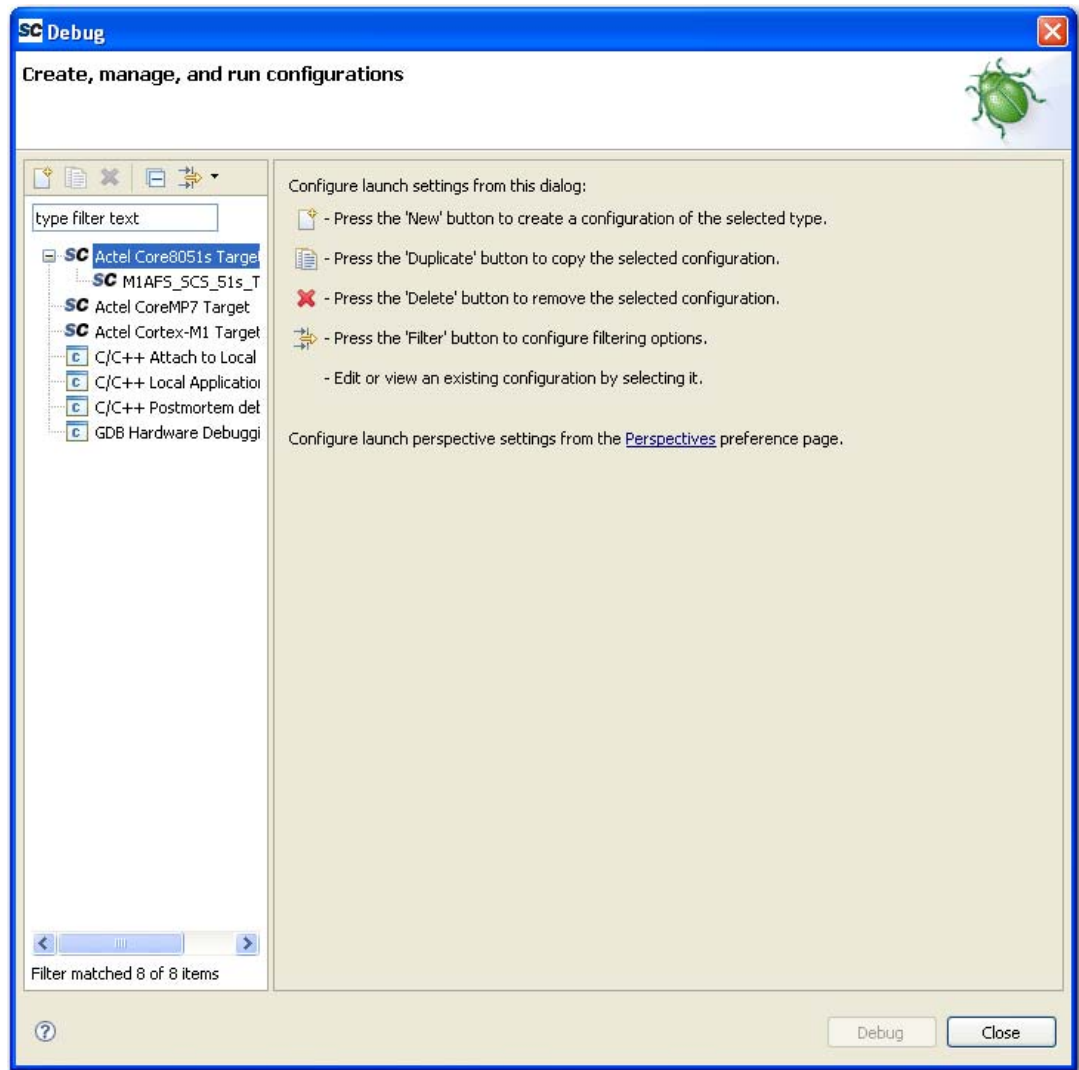

Figure 3-4 · Selecting the Debug Target
2. Right-click on the relevant target (Actel Core8051s Target) and choose **New** (Figure 3-4). SoftConsole will automatically configure the debug utility and open the Debug window. Click the **Debug** button. The Debug window will close.